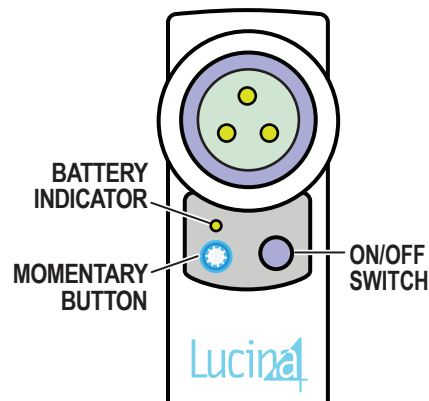

Figure 9. Control wand
3. Use the control wand to focus the light beams at a desired location (Figure 9).